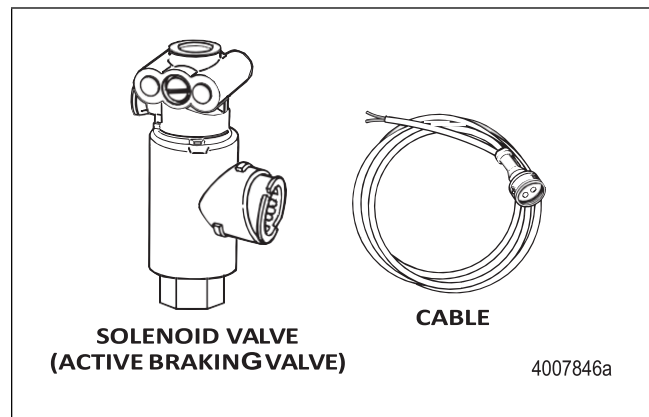

Figure 2.7
Additional solenoid valves are needed for RSC. These valves control the trailer service brakes and in some applications, the front axle brakes during an RSC event. The solenoid valve for the trailer control is a stand-alone valve. The valve is not part of an ABS valve package. Figure 2.7.
- B. ATC valve at front axle (similar to Figure 2.7): This valve helps maintain the HSA trapped pressure. Each failure detected on the 3/2 solenoid valve leads to HSA no availability or shut-off. To troubleshoot, please refer to Active Braking Valves (ABV) in Section 3 – Diagnostics, Troubleshooting and Testing.
- C. ATC valve at rear axle (similar to Figure 2.7): This valve, similar to front axle ATC valve, helps to maintain the HSA trapped pressure. Each failure detected on the 3/2 solenoid valve leads to HSA no availability or shut-off. To troubleshoot, please refer to Active Braking Valves (ABV) in Section 3 – Diagnostics, Troubleshooting and Testing.